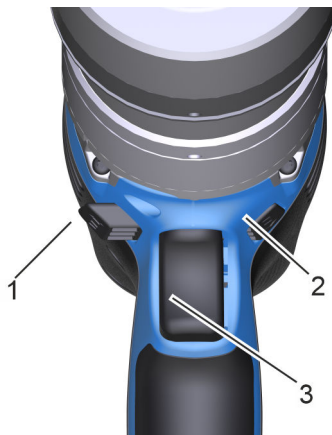

Fig. 38: Direction of rotation
To tighten in clockwise direction (CW), push the direction of rotation setting (Fig. 38/1) to the right.
To loosen in anti-clockwise direction (CCW), push the direction of rotation setting (Fig. 38/2) to the left.
Press and hold the trigger (Fig. 38/3) until the fastening operation has concluded and an acoustic signal sounds. Do not pulse (press and release the trigger in quick succession).